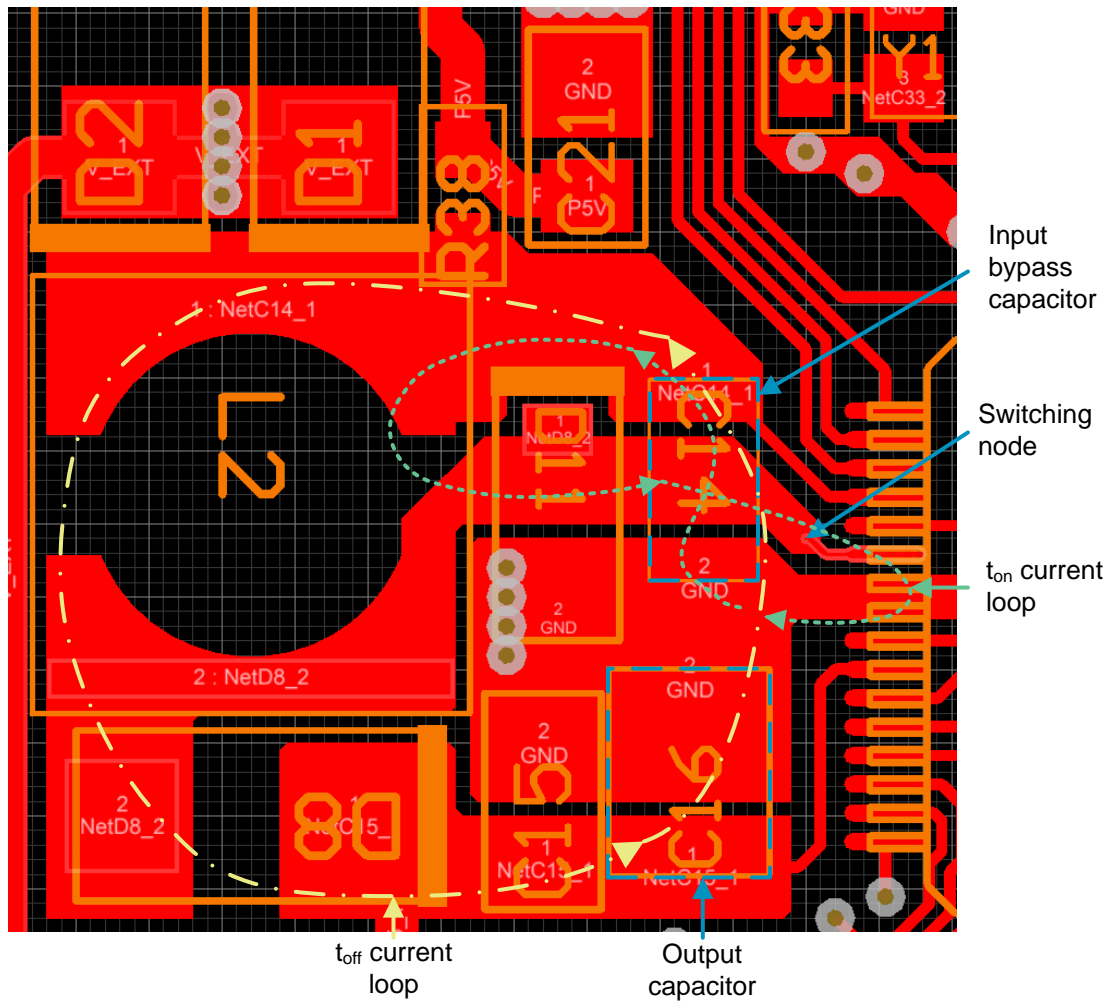

Figure 15. Layout Example for the Boost DC-DC Converter
- Keep all nets for a DC-DC converter in one signal layer. Figure 15 shows an example of such a solution. Because the highest transient occurs at the off time, t_{off} , the C15 capacitor helps reduce high-frequency content while the C16 capacitor serves as the energy storage.
Figure 15 provides a layout example for the boost-converter power supply.